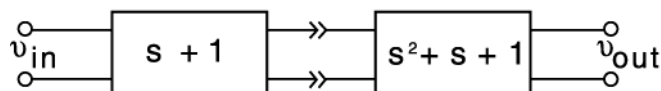

Figure 1
- Prepare a design that will meet the requirements of your particular filter project specifications. During the design process divide the circuit into stages. For example, the stages in Fig.1 describe the two cascaded OP AMP circuits that make up a third-order Butterworth filter. This piecemeal approach simplifies the design process and makes troubleshooting easier.